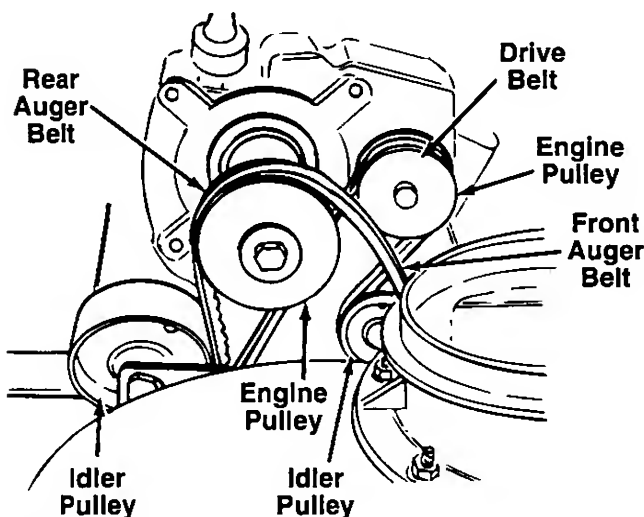

FIGURE 18.
5. Roll the front and rear auger belts off the engine pulley. See figure 18.
2. Pull idler pulley up, and lift belt off engine pulley and friction wheel disc. See figure 18.